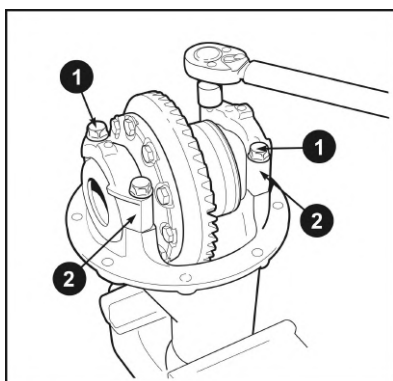

Fig. 6
1.10 Remove the bolts (1) and remove the bearing caps (2). (Fig. 6)